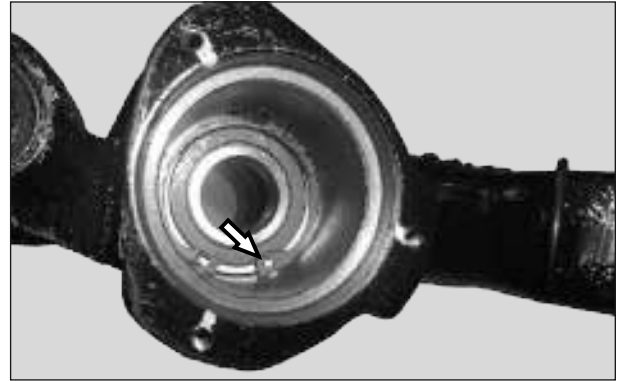

Fig. 5.41
- For removal of bearing, first remove the circlip. (Fig. 5.41)